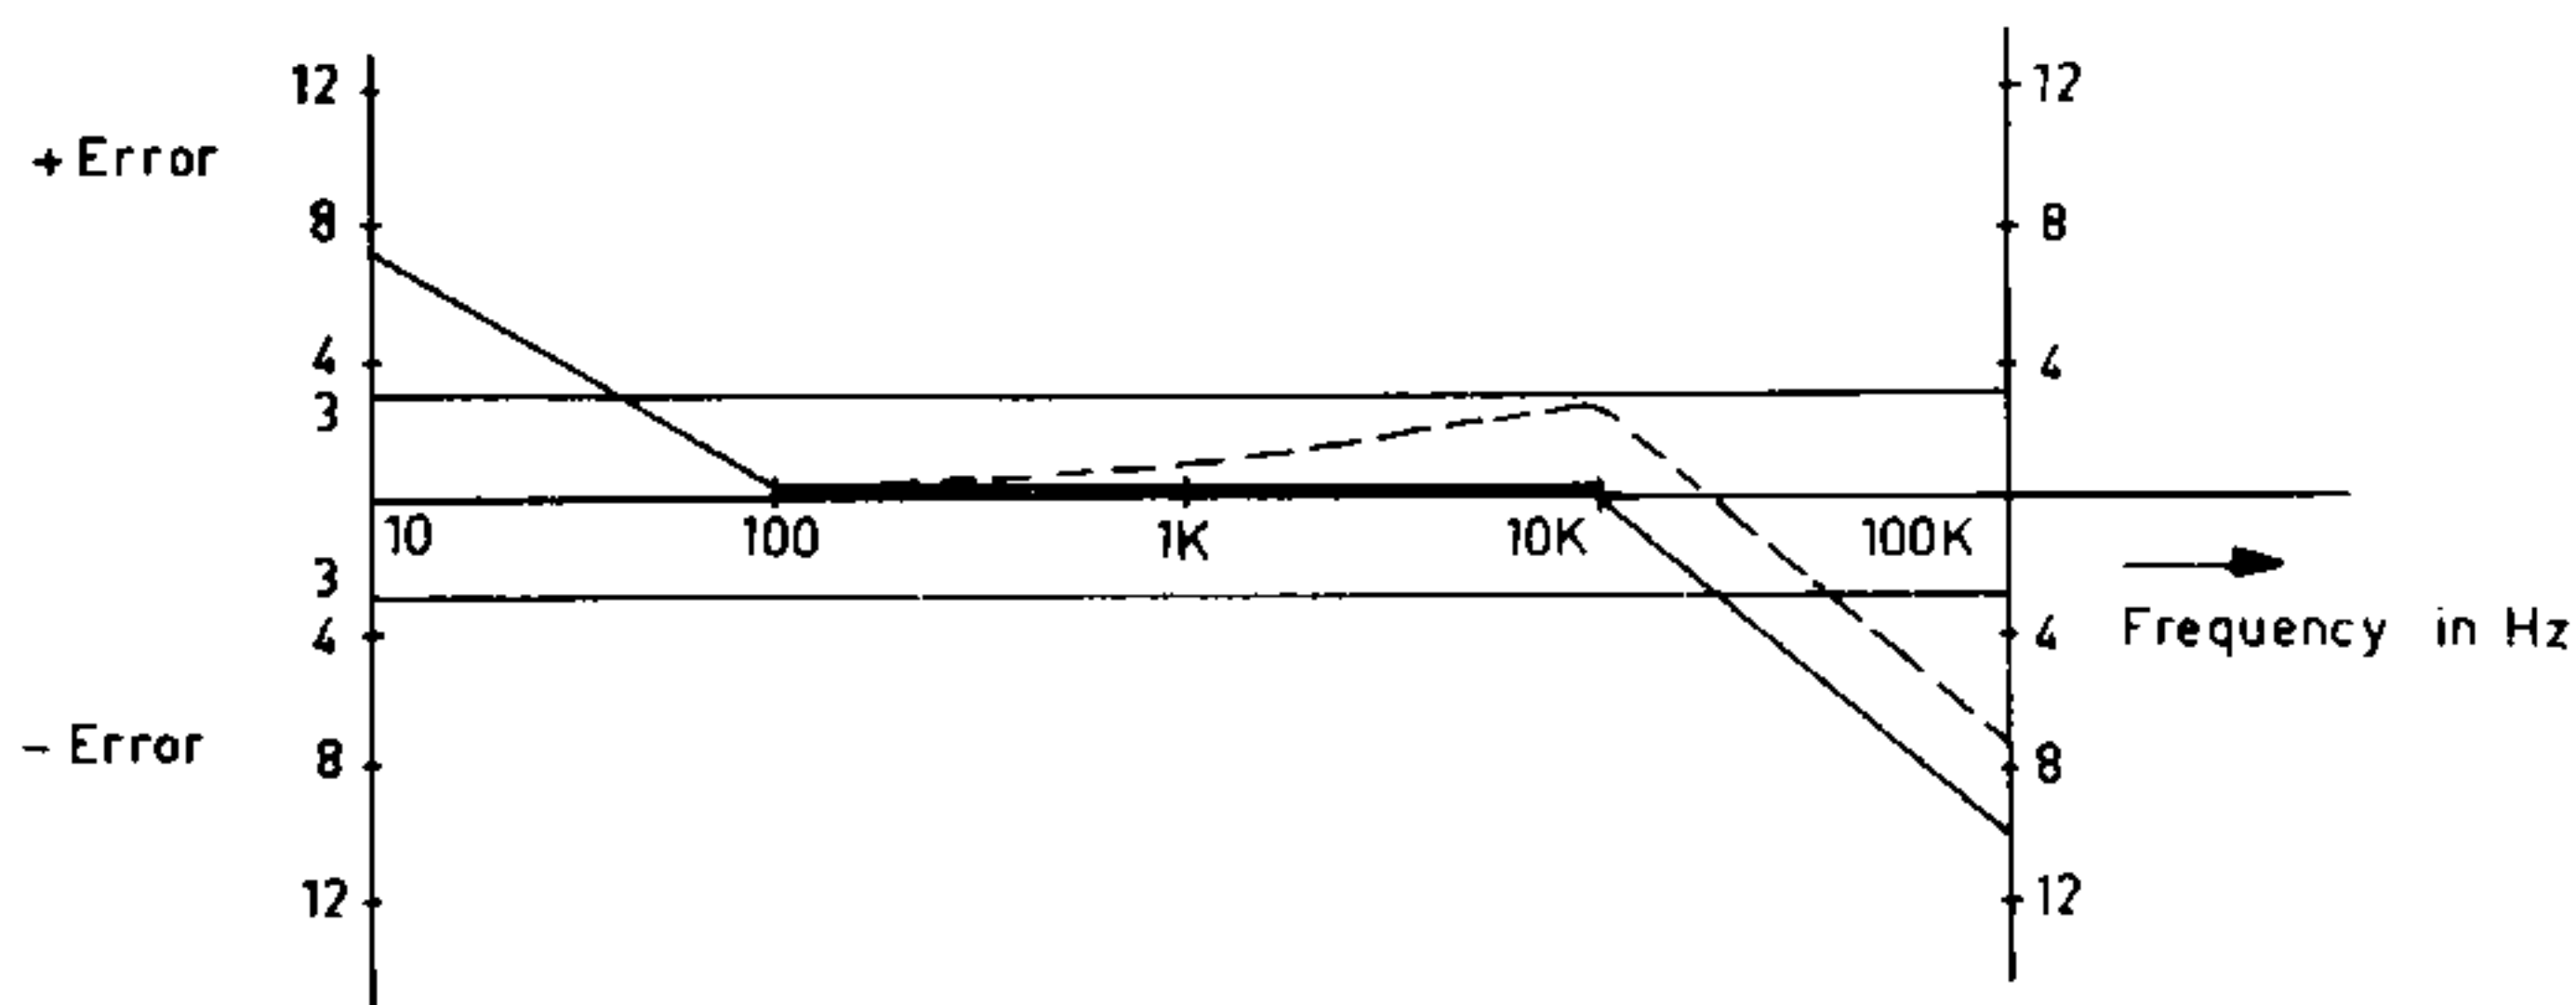

Fig. 14. Frequency error curves
– If necessary readjust the frequency at scale settings 100 and 10 K, according to point b, within the limits of $\pm 10\%$ in order to improve the frequency accuracy in positions 10 and 100 K. See frequency error curves in Fig. 14.